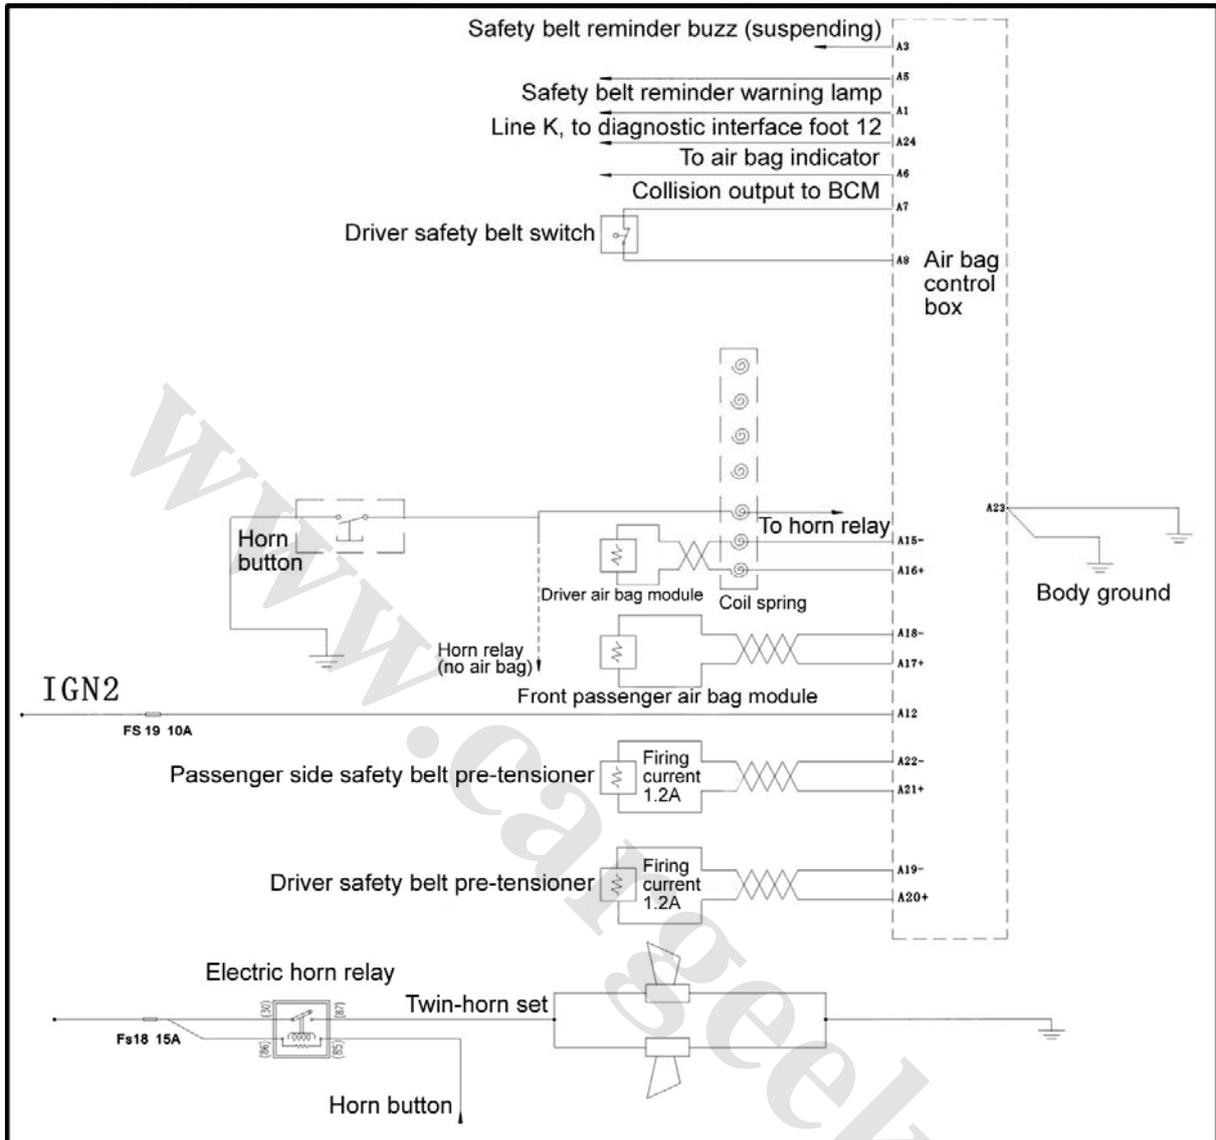

Fig. 5-7
1. Air bag circuit (as shown in Fig. 5-7 and Table 5-3)
Provided that the lamp keeps lighting when the ignition switch is at the position of LOCK, or keeps dark when the switch is at the position of ACC or ON, there must be malfunctions in the SRS warning lamp circuit. With reference to the air bag system wiring diagram (see Fig. 5-7), check the circuit as per the following process.